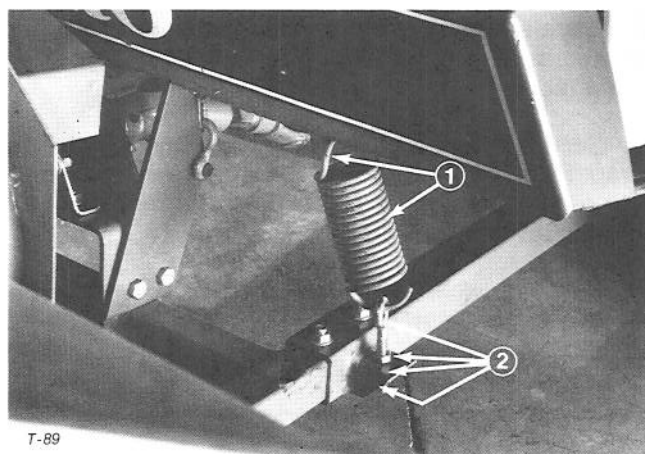

Figure 16
3. Assure park lock is engaged, start engine and raise snowthrower. Hook springs to tabs welded to underside of traction unit closest to front of unit, install eyebolts on opposite spring ends, thread nuts onto eyebolts, insert eyebolts through holes in tool bars and install nuts onto eyebolts (Fig. 16).